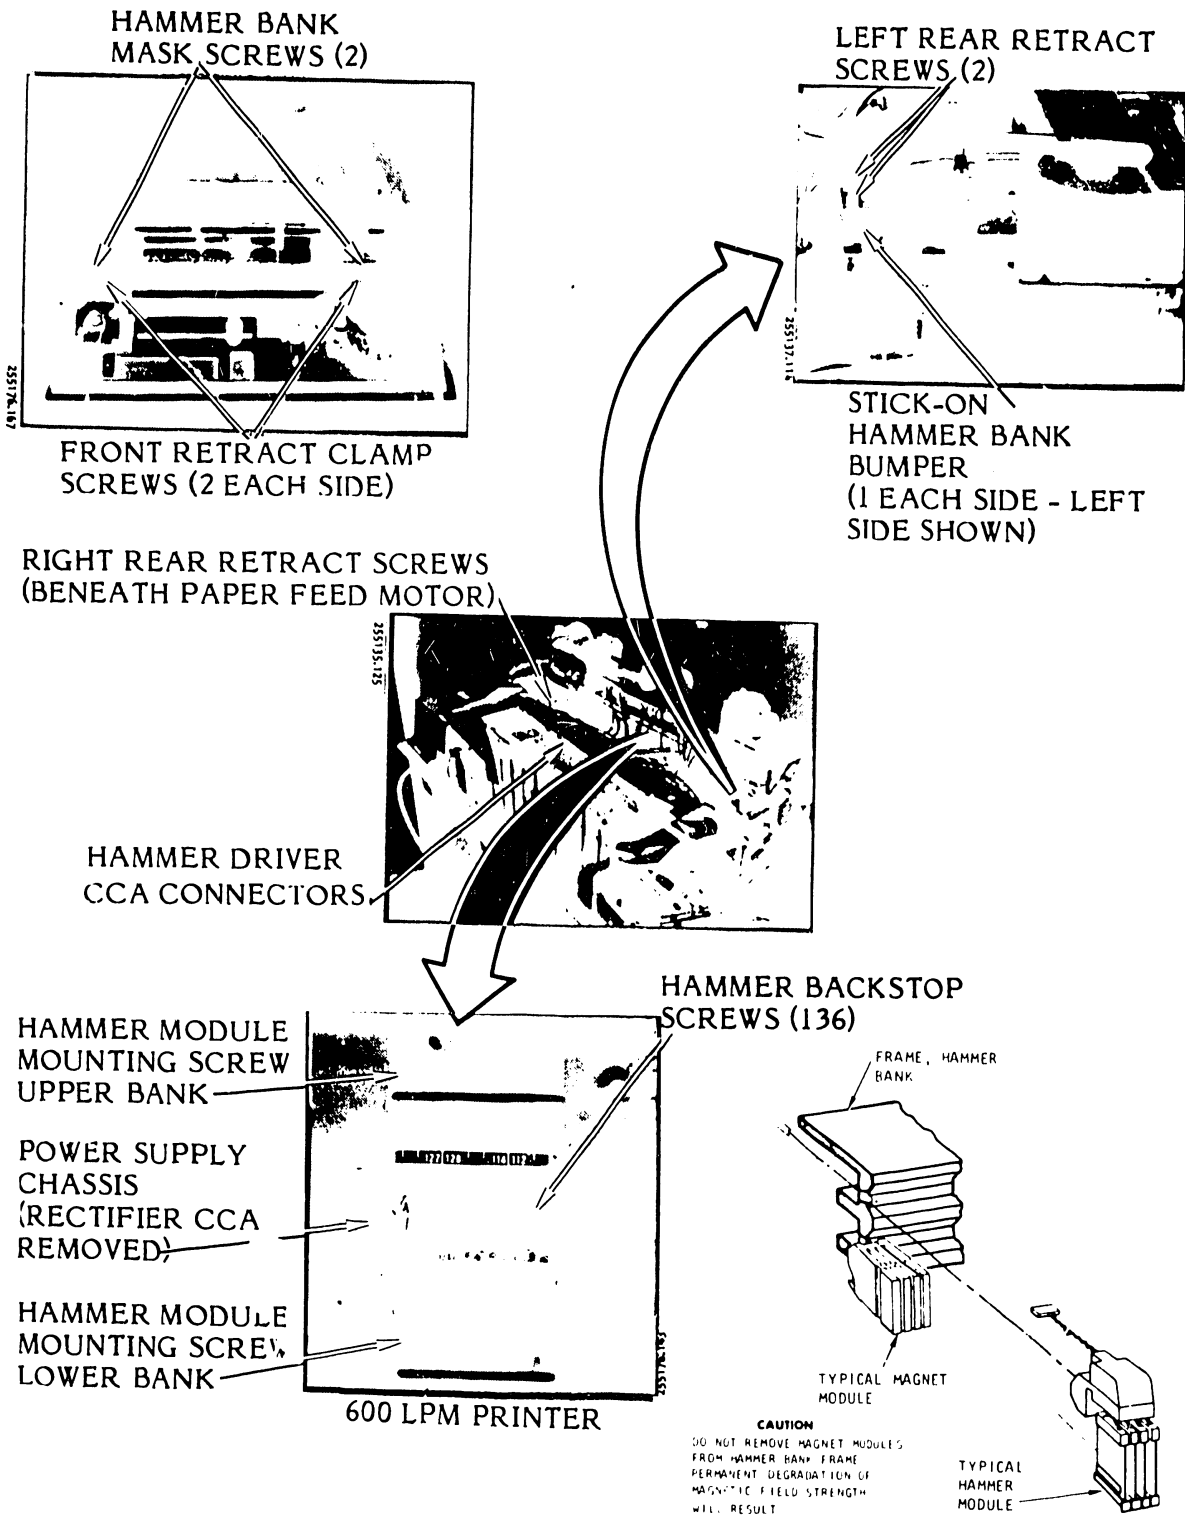

Figure 3-103. Hammer Module (600 LPM Printer) Removal/Installation
(Figure 3-103)
- a. Close the hammer bank assembly and, using the upper module allen wrench, remove the module mounting screw (see figure 3-103).